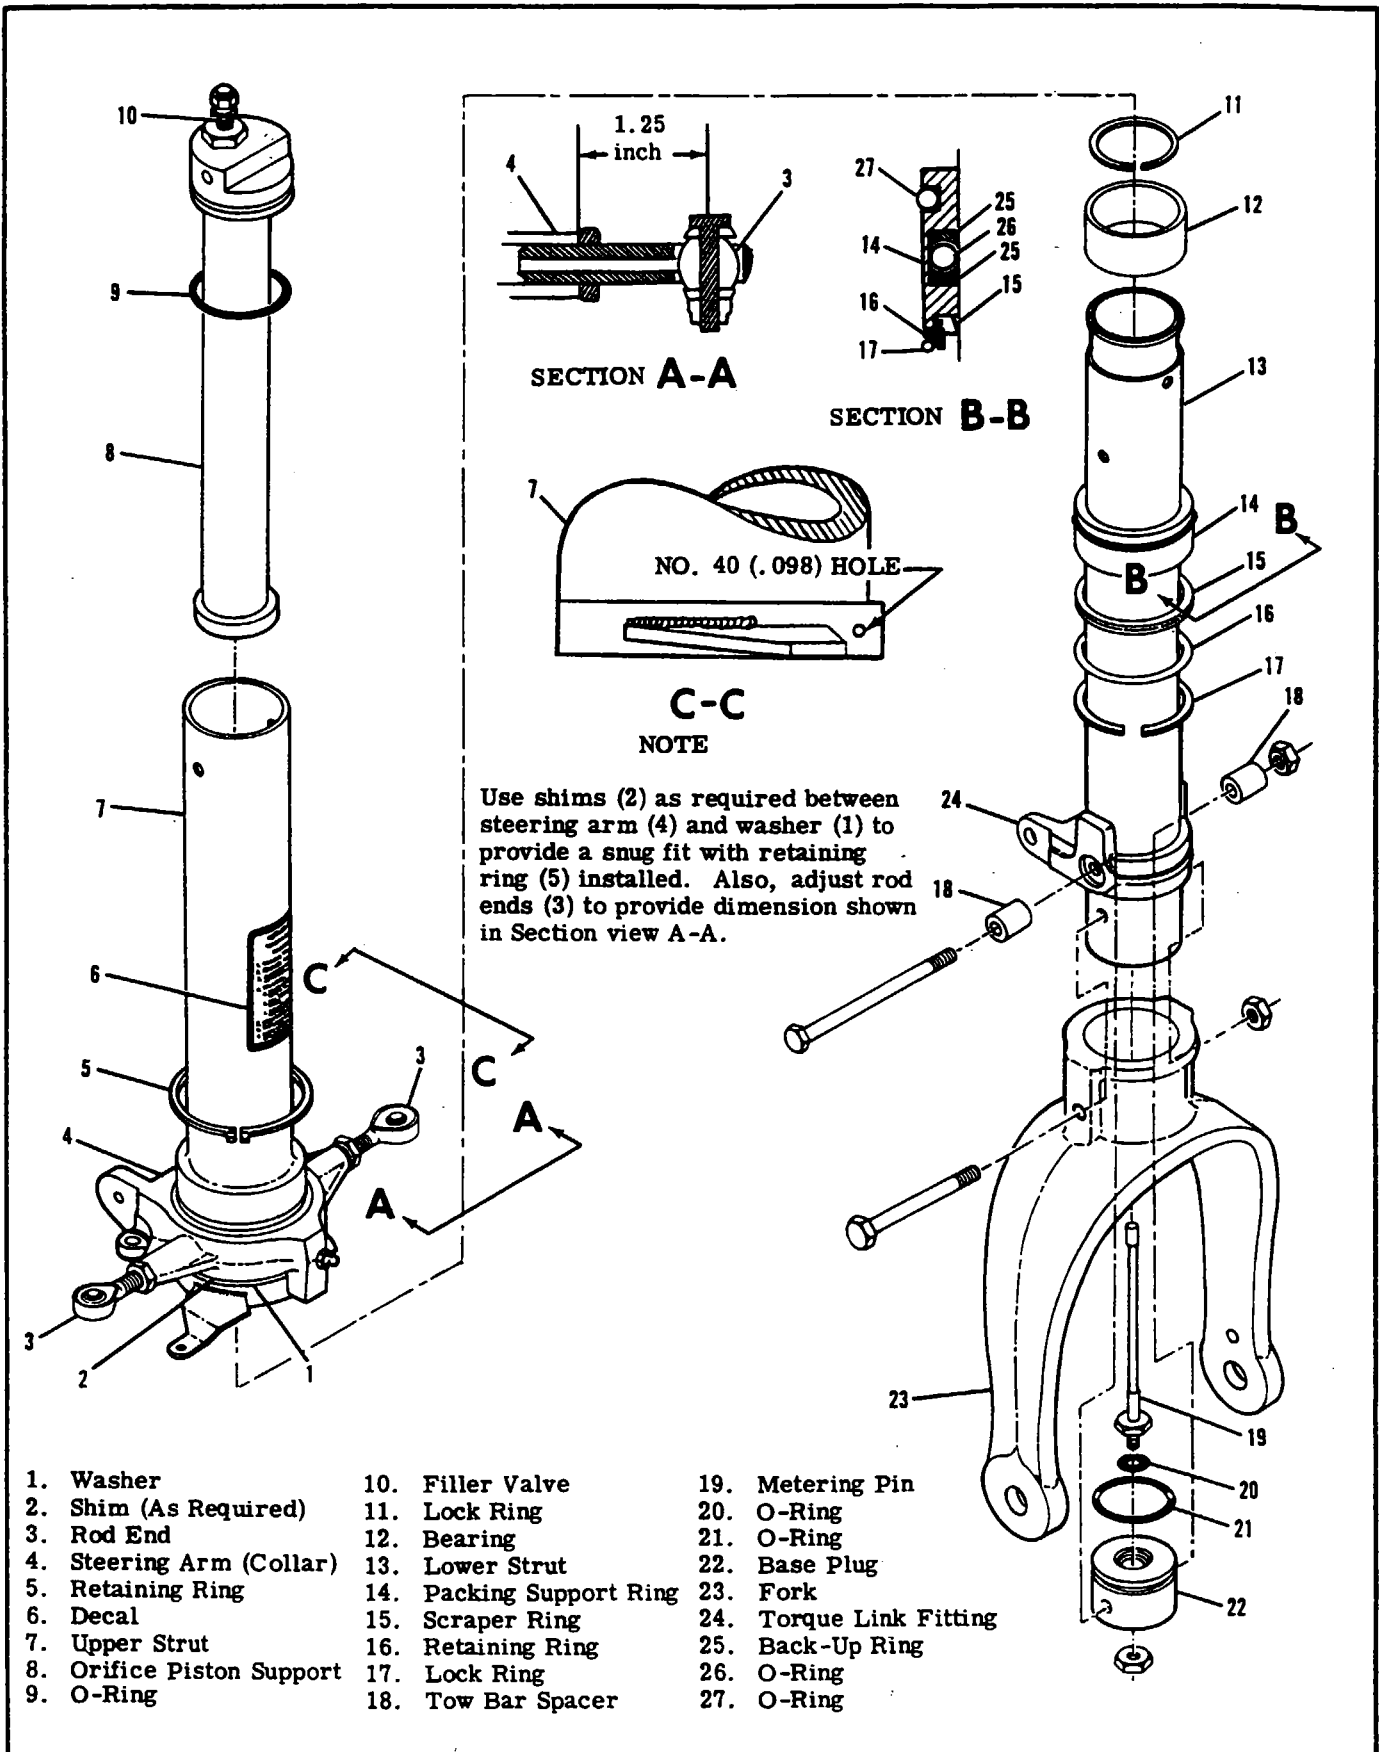

Figure 5-9. Nose Gear Shock Strut
5-35. NOSE GEAR SHOCK STRUT DISASSEMBLY. (Refer to figure 5-9.)
5-36. NOSE GEAR SHOCK STRUT INSPECTION AND REPAIR. (Refer to figure 5-9.)
5-37. NOSE GEAR SHOCK STRUT REASSEMBLY. (Refer to figure 5-9.)
- d. Install rod ends (3) in steering collar (4), and adjust rod ends to dimension specified in Section view A-A in Figure 5-9.
- e. Install O-ring (9) and filler valve (10) in orifice piston support (8) and install orifice piston support in upper strut (7).
- f. Install O-ring (21) and metering pin assembly in lower strut (13); install bolt attaching fork (23) to lower strut.
- g. Align base plug (22) holes with holes in lower strut/fork (13) and (23) assembly; install bolt and tow
h. Install lock ring (17), retaining ring (16) and scraper ring (15) on lower strut, making sure they are installed in same positions as they were removed.
i. Install O-rings (26) and (27) and back-up rings in packing support ring (14); slide packing support ring over lower strut (13).
j. Install bearing (12) and lock ring (11) at upper end of lower strut assembly. Note top side of bearing.
l. Install lock ring (17) in groove in lower end of upper strut. Position lock ring so that one of its ends covers the small access hole in the lock ring groove at the bottom of the upper strut. (Refer to Section C-C in figure 5-9.)